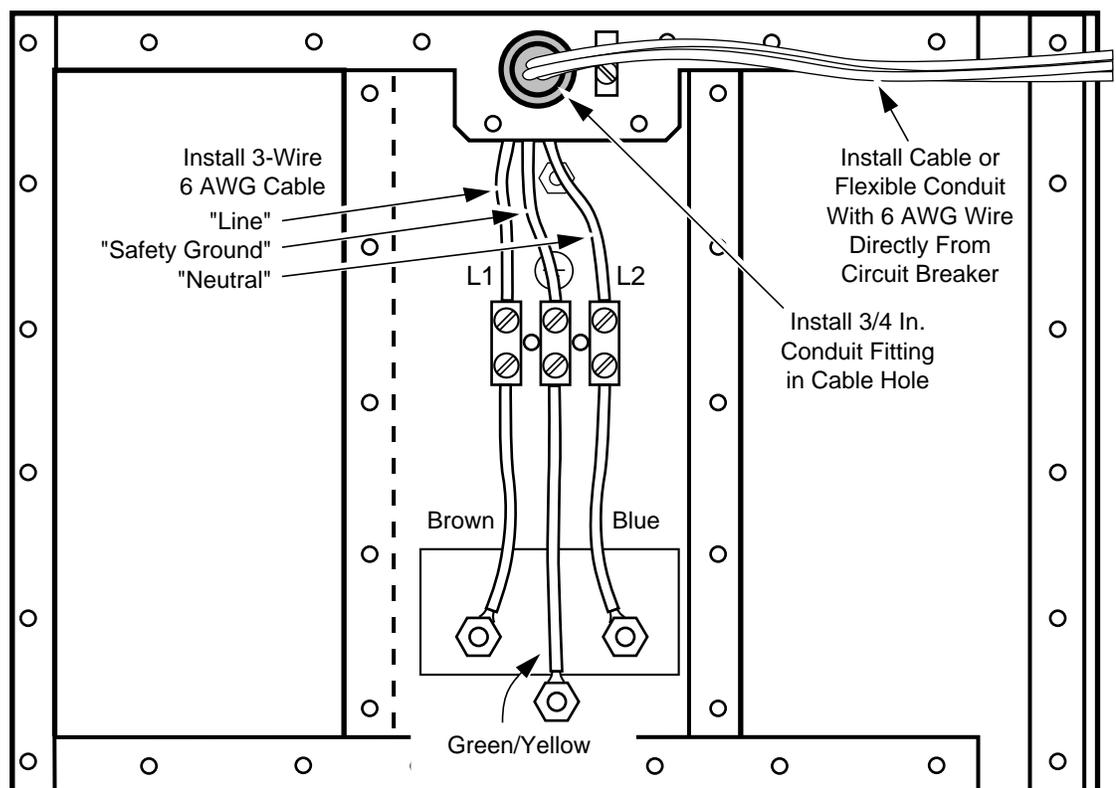

Figure 2-30. For 110 Vac Operation – Install 110 Vac Wiring
7. The 6 AWG wiring may now be installed (see Figure 2-30). It is suggested that a 3/4-inch (19 cm) electrical conduit fitting be installed in the hole from which the power cord retention block was removed and the wiring be routed in through flexible conduit from a junction box. In the United States, field wiring must be in compliance with the National Electrical Code and any applicable local codes.